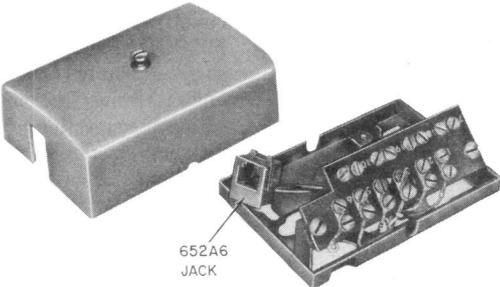

Fig. 1—74D Connecting Block
1.08 These arrangements use a standard modular type connecting block (Fig. 1 through 4) as the interface with the CPE as follows:
2.10 USOC RJ18C: Provides a bridged connection of single-line tip and ring and make-busy leads MB/MB1 (Fig. 14). Used where customer requires surface-mounted installation. Requires installation of a 74D connecting block (Fig. 1) or equivalent at location of connection to equipment. Connection to the network should be made per operating company make-busy circuit drawings.
circuit with A lead control and make-busy leads MB/MB1 (Fig. 15). Used where customer requires surface-mounted installation. Requires installation of a 74D connecting block (Fig. 1) or equivalent at location of connection to equipment. Connection to the network should be made per operating company make-busy circuit drawings.